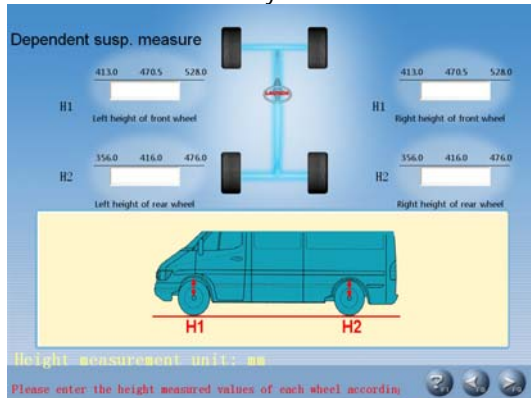

Fig.4.10
- When some special vehicle models (such as RENAULT MEGANE II) are selected, the screen will pop up an interface of [Dependent Suspension Measurement] as shown in Fig.4.10. This interface provides an operating platform for dependent suspension measurement system, in order to confirm the standard data according to the current